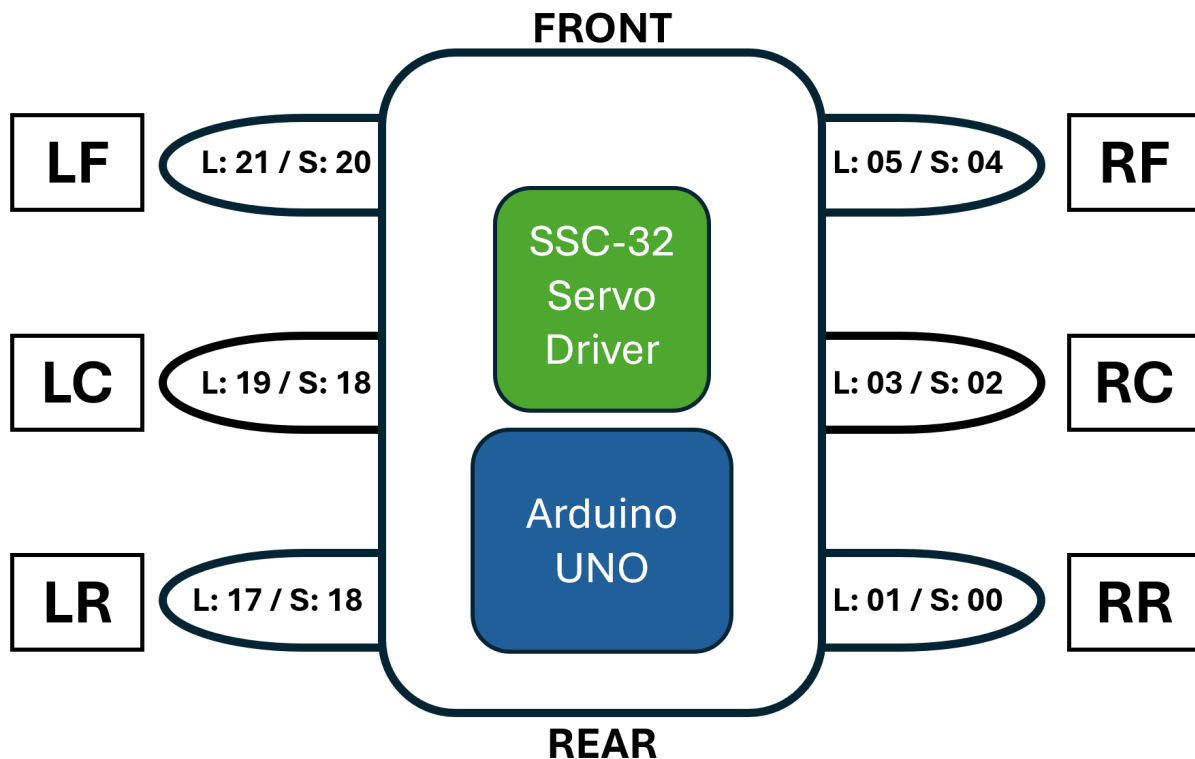

Figure 3: Schematic of Naming Convention and Servo Pin-Outs for the Hexapod
In the below figures and tables you will see the positions of the individual legs for each step of all three of the gaits. Note that if a step converges in say three steps, each leg will have three possible positions that define the entire range of its motion. Additionally each step is best executed if decomposed into three sub-steps that sequentially lift the required legs (lift), move all legs (stride), and then place back down the lifted legs (drop). For each of the legs shown in Figure 3 there are two numbers listed either labeled with *L* or *S*. The number listed beside the *L* corresponds to the servo number that will enable that leg to perform a lift. The number listed beside the *S* corresponds to the number that will enable that leg to perform a stride. The tables provide the gait pattern where a 1 represents the legs that are NOT touching the ground and a 0 represents the legs that are touching the ground.
- The following defines the pin number to which the servos are connected on the SSC-32 board, which should match with the schematic shown in Figure 3.